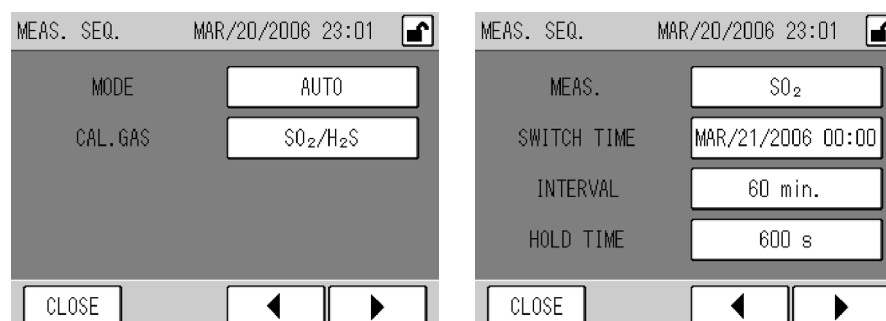

Fig. 79 MEAS. SEQ. screen
- [MEAS. SEQUENCE]: Displays the MEAS. SEQ. screen (Fig. 79 on page 63).